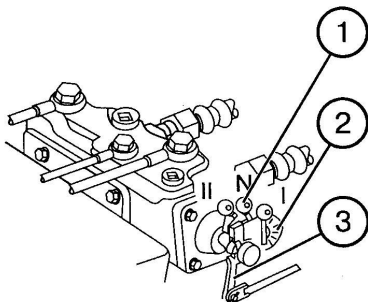

Fig. E-31 Change-over switch at the controller.
Activation of automatic adjustment is realised with the lever 1 (fig. E-31) situated nearby the force adjustment gear and the lever for selection of adjustment mode 4 (fig. E-32) in tractor's cab.
- turn the knob 2 (fig. E-31) counterclockwise as far as it will go to set maximum response quickness during automatic correction of position;
- disconnect the change-over switch **1** (fig. E-31) at the controller (set it vertically) from the lever **3**, which connects the controller with the lever for selection of adjustment mode **4** in the cab;
- connect the change-over switch **1** (fig. E-31) with the lever **3**.
CAUTION ! When during work with with automatic adjustment appear vibrations (shocks) of the tool suspended on the rear hitch, reduce sensitivity of the controller by turning the knob **2** (fig. E-31) clockwise.